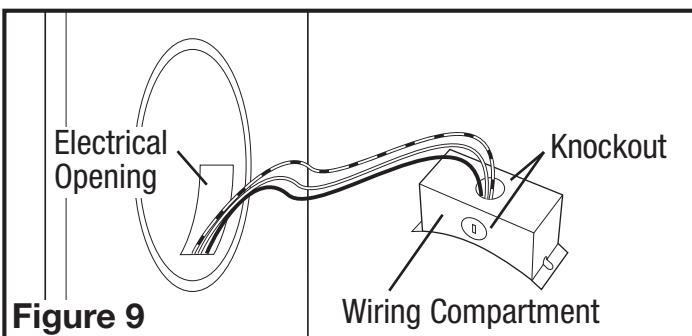

Figure 9
- Pull the electrical wires through the electrical opening of the interior housing. Remove one of the electrical knockouts of the wiring compartment and run wires through the opening making sure to leave enough wiring to make the connection to the fan's receptacle. Secure wires to wiring compartment with an approved electrical connector (Figure 9).